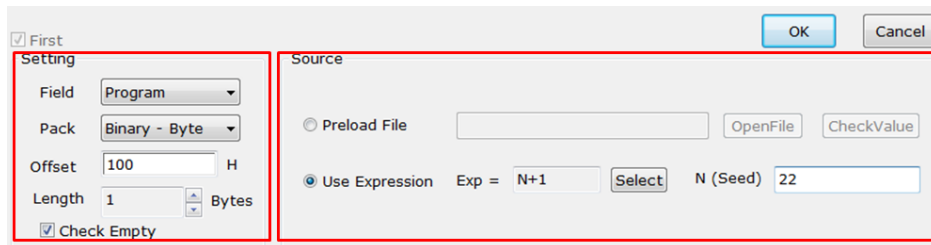

Fig. 4-10
The following introduces the definitions and how to use these settings. As shown in Fig. 4-10, each group of setting is divided into a left and a right part. The left part is used to set the form, length and address of the data in the Program Memory section and the right part is used to set the data source. The details are shown below.
(A) Setting – the left part in Fig. 4-10
(B) Data Source – the right part in Fig. 4-10